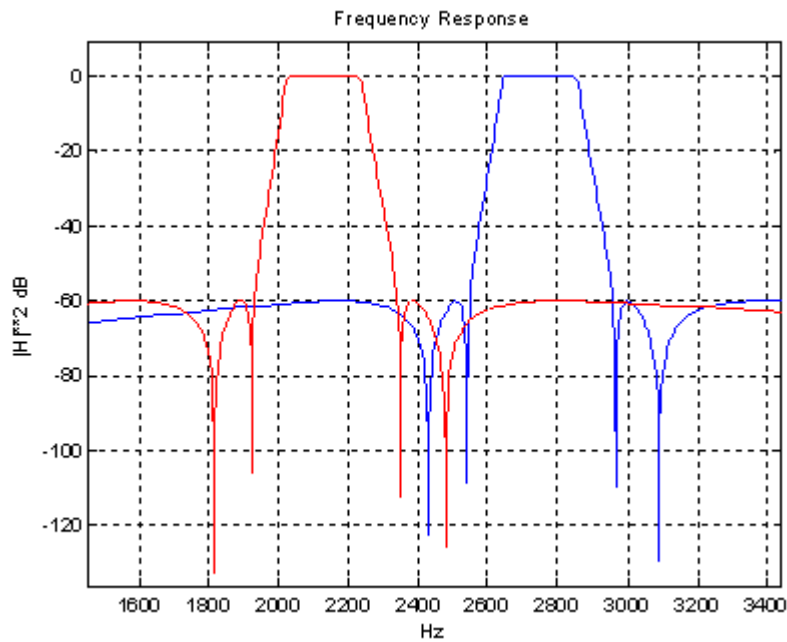

Figure 8-21 CAS Internal IIR Filter Frequency Response Figure
- IIR_EN Enable internal IIR filter. IIR_EN must be cleared before accessing filter coefficients in arbitrary tone detection (ATD) mode. The response of the IIR filter in CAS mode is shown Figure 8-21 CAS Internal IIR Filter Frequency Response Figure . The response of the filter in ATD mode is determined by the user coefficient loaded into RAM. Once filter coefficients are loaded into RAM IIR_EN must be set active once more.